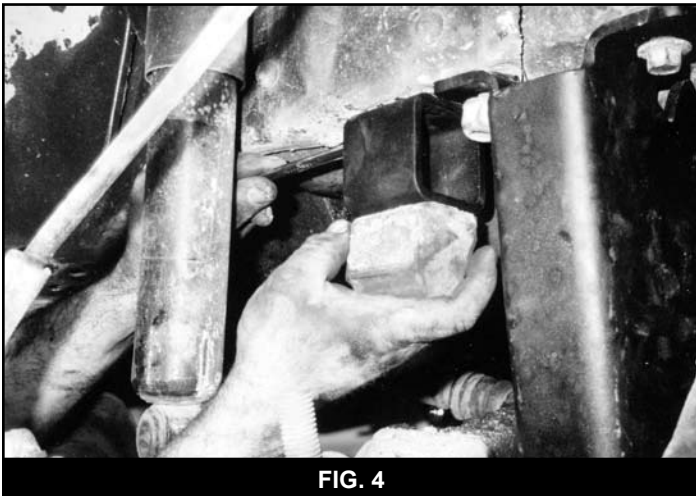

FIG. 4
8. Remove the existing OE bump stops. Attach each bump stop drop bracket to the frame with 1 -3/8 x 1" bolt, nut and washers. Attach the bump stop to the drop bracket using the OE stud. (Fig. 4)